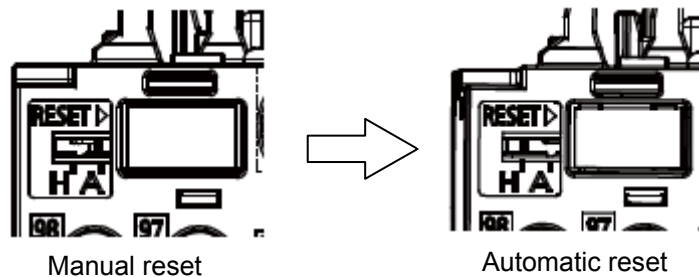

Fig. 3
3. Mount the terminal cover, and confirm that the switching plate is at position A. (Fig. 3)